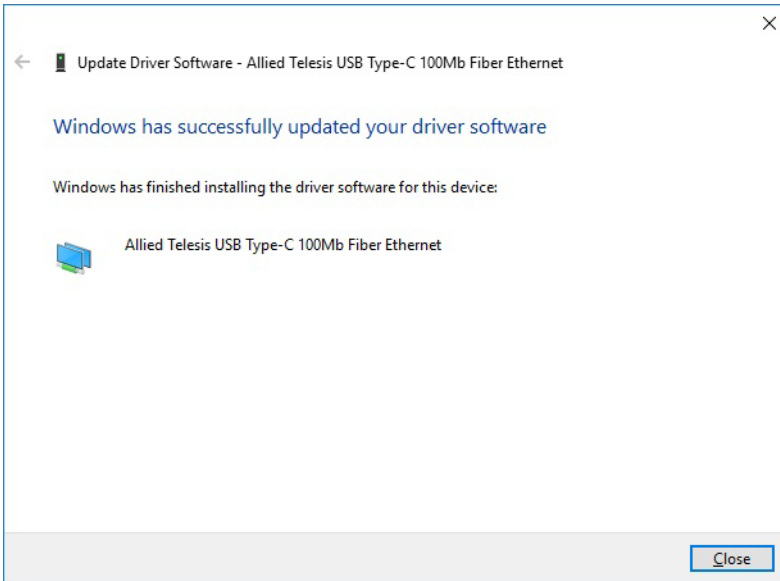

Figure 14. Progress Bar for Installing UMC Driver Software
9. After the installation is complete, click the Close button to exit the driver install process. See Figure 14.